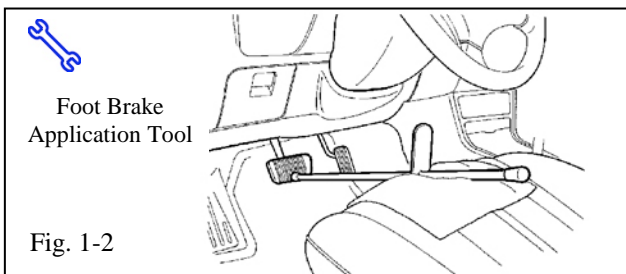

Fig. 1-2
- Add seat protection (blanket) and apply foot brake using foot brake application tool. (Fig. 1-2)